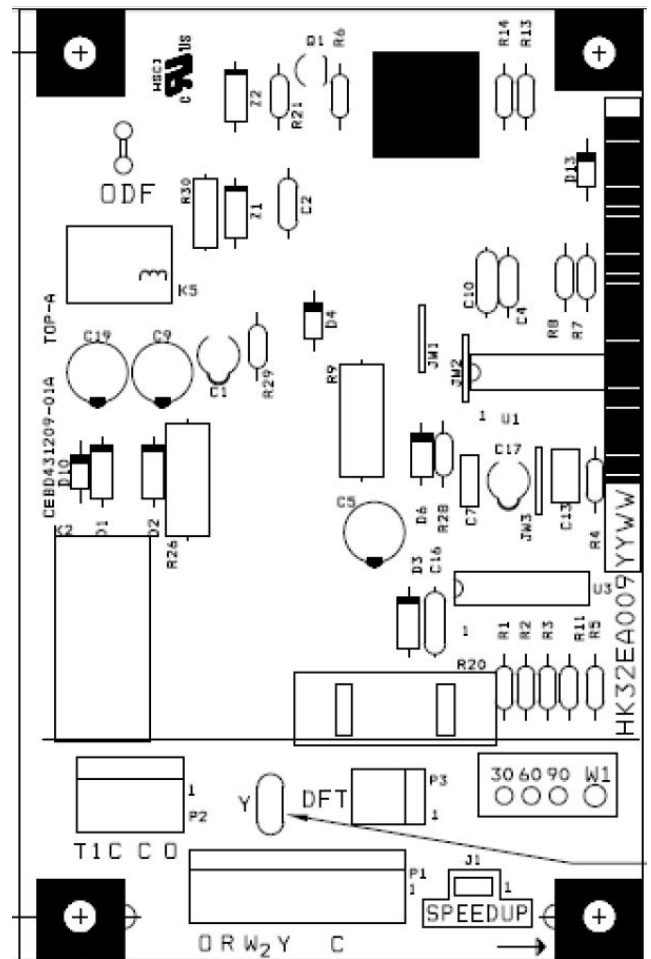

Fig. 12 – Defrost Control HK32EA009 for units with ECM Motor
2. Disconnect outdoor fan motor lead from OF2 on control board for units using PSC motors and from ODF terminal on units with ECM motor (see Fig. 12). Tape lead to prevent grounding.